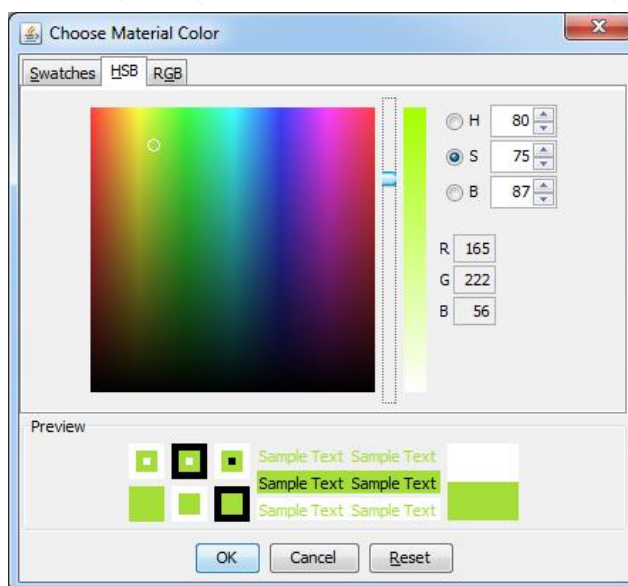

Figure 4: Choose Material Color – HSB window.
- **Choose Material Color – HSB (Figure 4).**